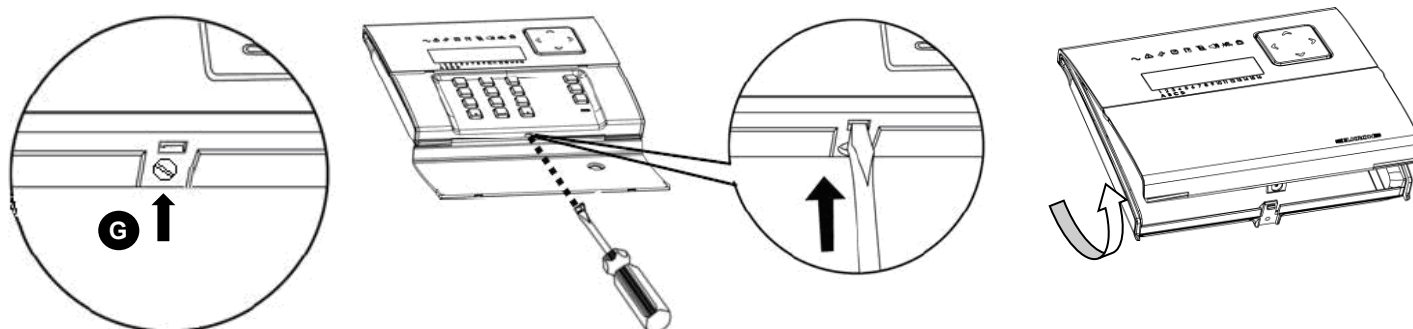

Figure 46 - Opening the keypad
5. Close the keypad using the screw provided - *Figure 46 (G)*.